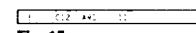

Fig. 15.
- 4 Using  $\rightarrow$  or  $\leftarrow$ , select the programme position you want to exchange with another and press OK. The colour of the selected position changes. (See Fig. 15.)